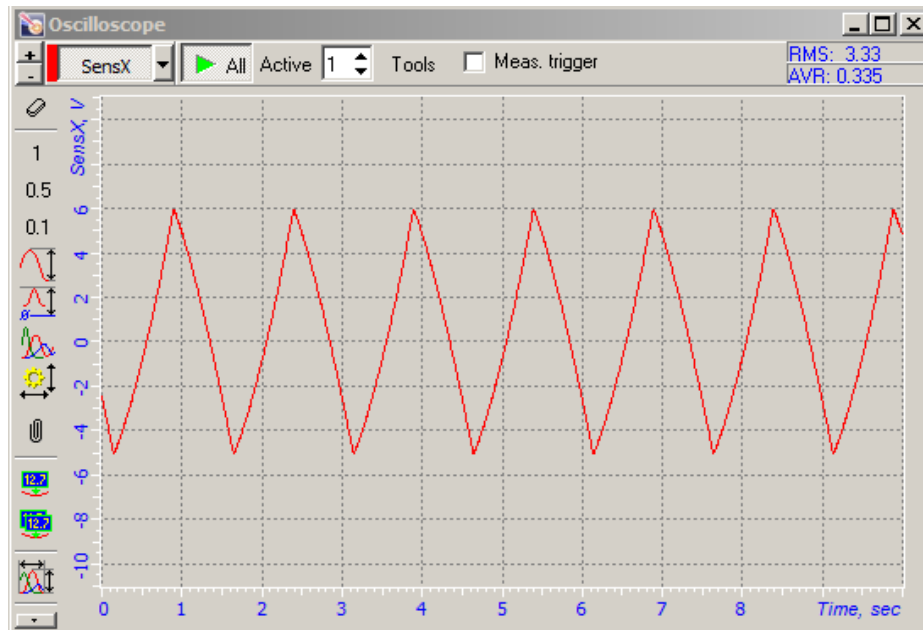

Fig. 1-12. Verification of the X-sensor adjustment.
- If the signal peak-to-peak amplitude is less 13 V (Fig. 1-12), the procedures on adjustment of the X-sensor and calibration of X-scanner.